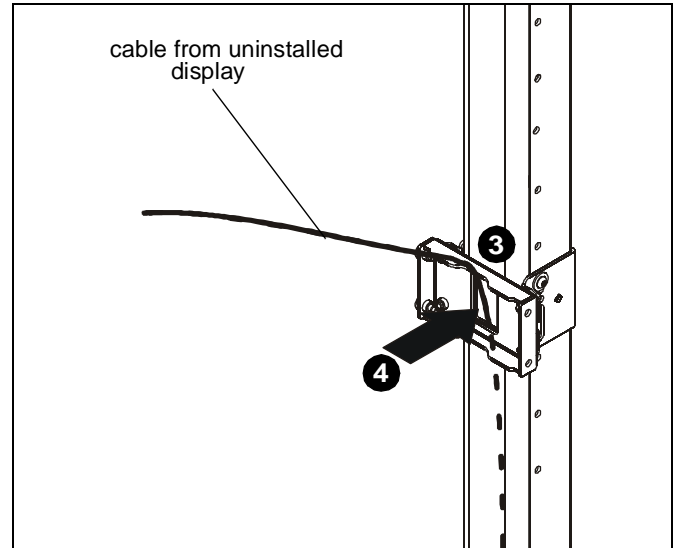

Figure 18
3. If rails needed to be installed on top of cable management holes, cables may be routed through quick connect bases (Q) prior to the rails being installed. (See Figure 18)
4. Install rails according to Rails Installation section making sure cable is routed through cable opening on quick connect base (Q). (See Figure 18)